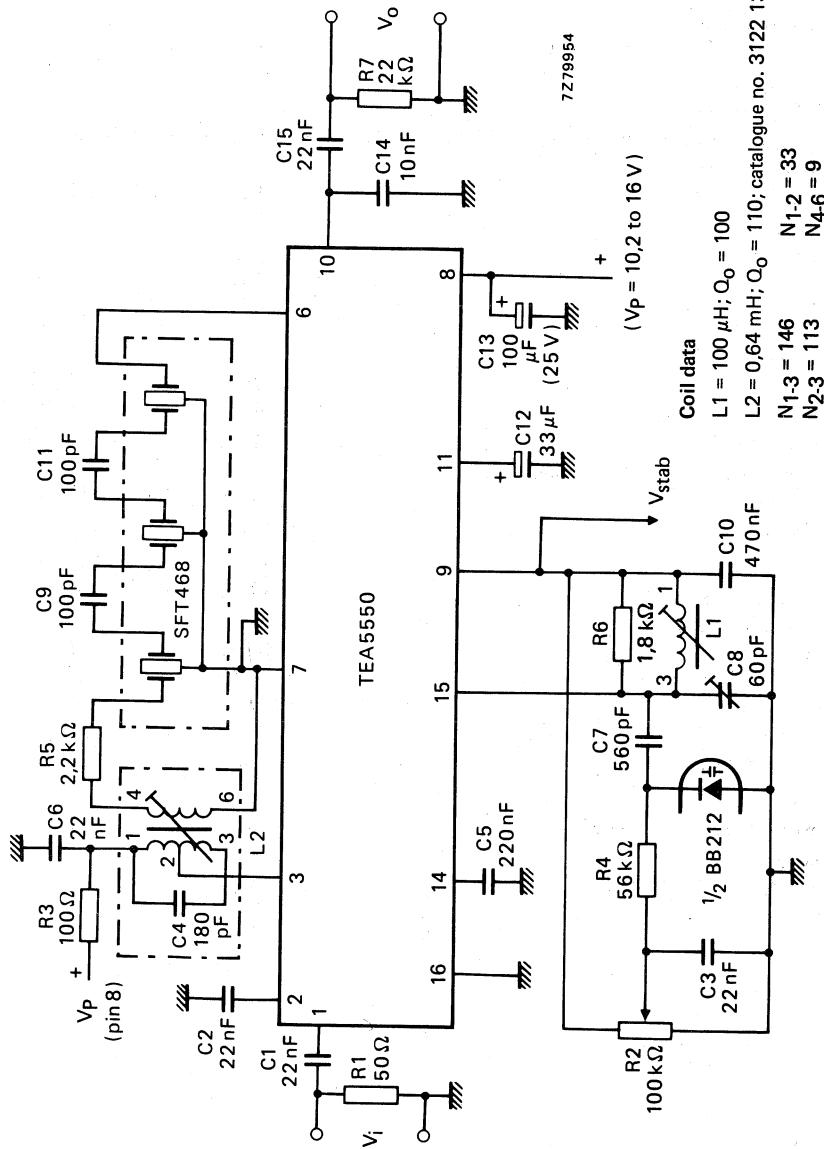

Fig. 2 AM test circuit; for printed-circuit board see Figs 3 and 4.
D.C. CHARACTERISTICS at $V_i = 0$ $V_p = 14,4$ V; $T_{amb} = 25$ °C; measured in Fig. 2
$V_p = 14,4$ V; $T_{amb} = 25$ °C; r.f. condition: $f_i = 1$ MHz, $m = 0,3$, $f_m = 1$ kHz; measured in Fig. 2; unless otherwise specified